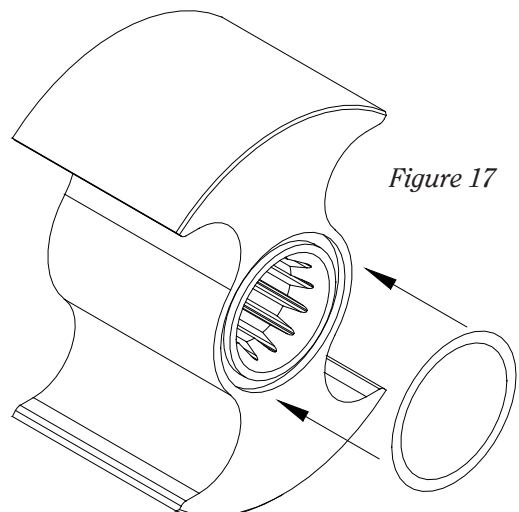

Figure 17
- Install the rotor o-rings into the grooves on the back of the rotors (*Figure 17*).